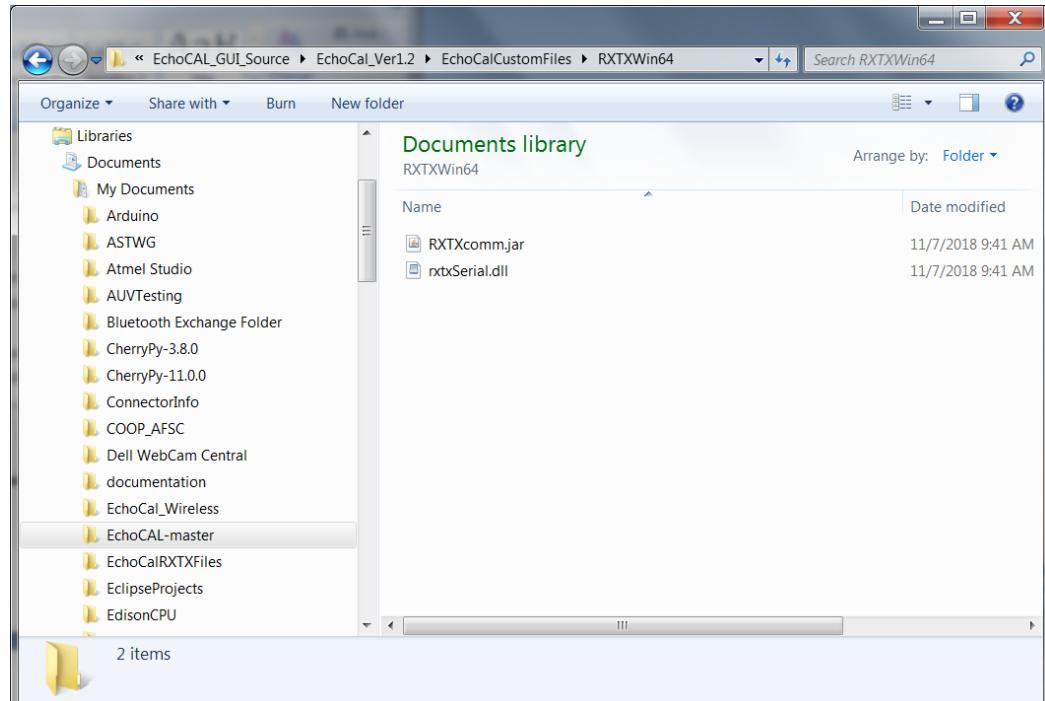

Figure 26: “RXTXWin64” folder contents.
- 2) This folder contains RXTX modules for the Linux and Windows operating systems, both 32- and 64-bit versions. Select the version that will work for your current operating system. For a Windows 64-bit OS, open the **RXTXWin64** folder to access the RXTX modules for that operating system. (Figure 26)